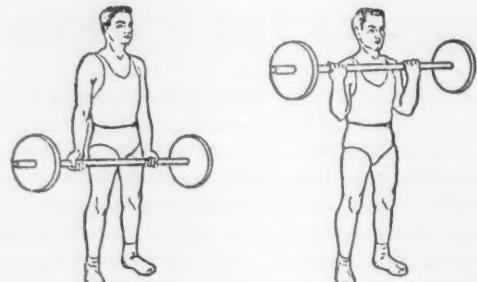

Fig. 4.
- **Arm Curls (bicep exercise) (Fig. 4).** Hold the barbell in front of your thighs with palms forward and hands about shoulder-width apart. Raise the weight by flexing your arms at the elbows until arms are fully bent and the bar is touching the chest. Elbows should be kept at the sides but should not be braced against the body or moved backward or forward. The bar should be lifted in a continuous motion without jerking or using a backbend. The weight should be lowered slowly in the same manner until your arms are fully extended.